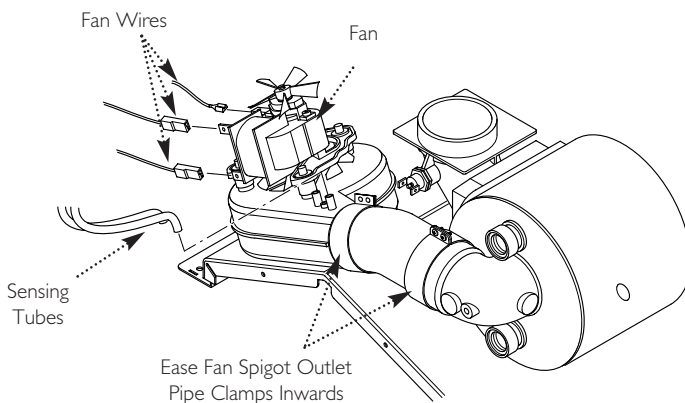

Fig. 55
7. Note the positions of the two sensing tubes on the fan spigot and three wires on the fan motor and remove them (Fig. 55).